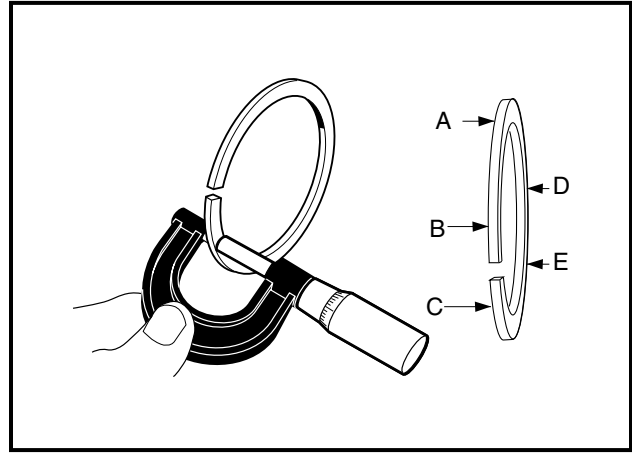

Figure 3-47 Measure Piston Ring Thickness
4. Use a micrometer to measure the thickness of both piston rings at several points around the rings (**Figure 3-47, Page 3-25**).